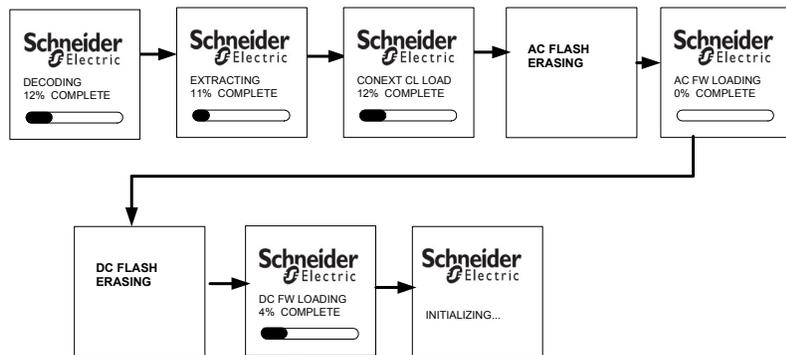

Figure 1-8 Firmware upgrade screen
15. Once rebooted, firmware upgrade will continue as shown in Figure 1-8 on page 1–7.